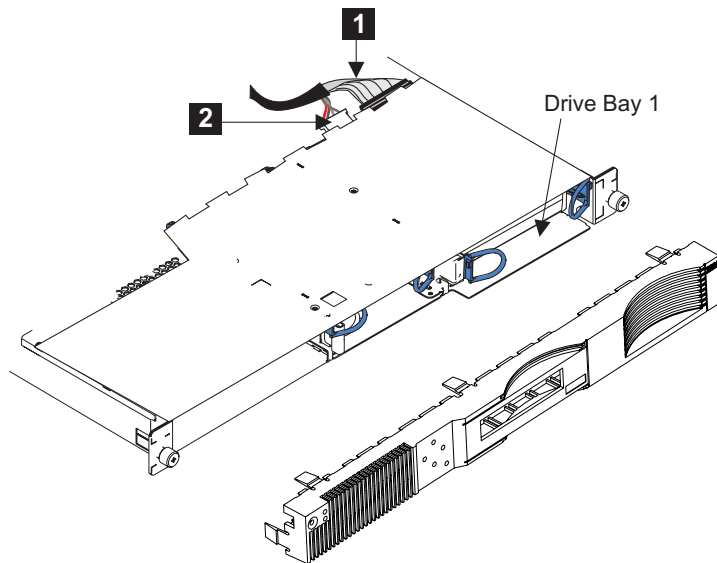

Figure 125. Removing the SAN Volume Controller 2145-4F2 disk drive cables
4. Disconnect the SCSI signal connector **1** and the power connector **2** from the back of the disk drive, as shown in Figure 125 on page 398, and then remove the cable.